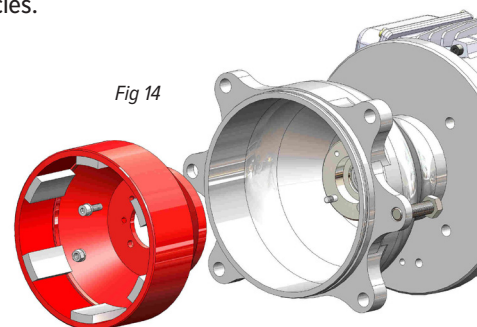

Fig 14
1. Using a 13 mm socket, remove the (2) M8 hex head cap screws (item 23) and two M8 hex nuts (item 21) that hold the outer magnet ring to the shaft adapter. If necessary, use the two M8 hex bolts as jack screws in the tapped holes of the magnet ring. See figure 14.